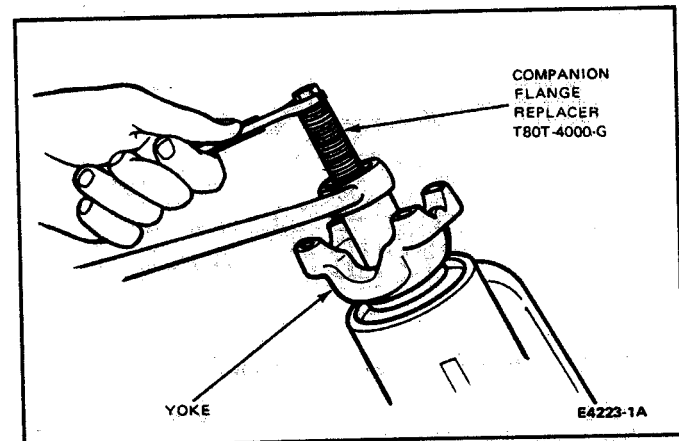

FIG. 37 End Yoke Installation
4. Assemble end yoke, washer, deflector, and slinger on pinion shaft and align with special Tool T80T-4000-G and T78P-4851-A, Companion Flange Holder to seat the yoke (Fig. 37). Install a new pinion nut and tighten nut to 271-298 N·m (200-220 ft. lb).
10. Install the yoke with Companion Flange Replacer, T80T-4000-G (Fig. 37). Install washer and nut and tighten nut to 271-298 N·m (200-220 ft-lbs).